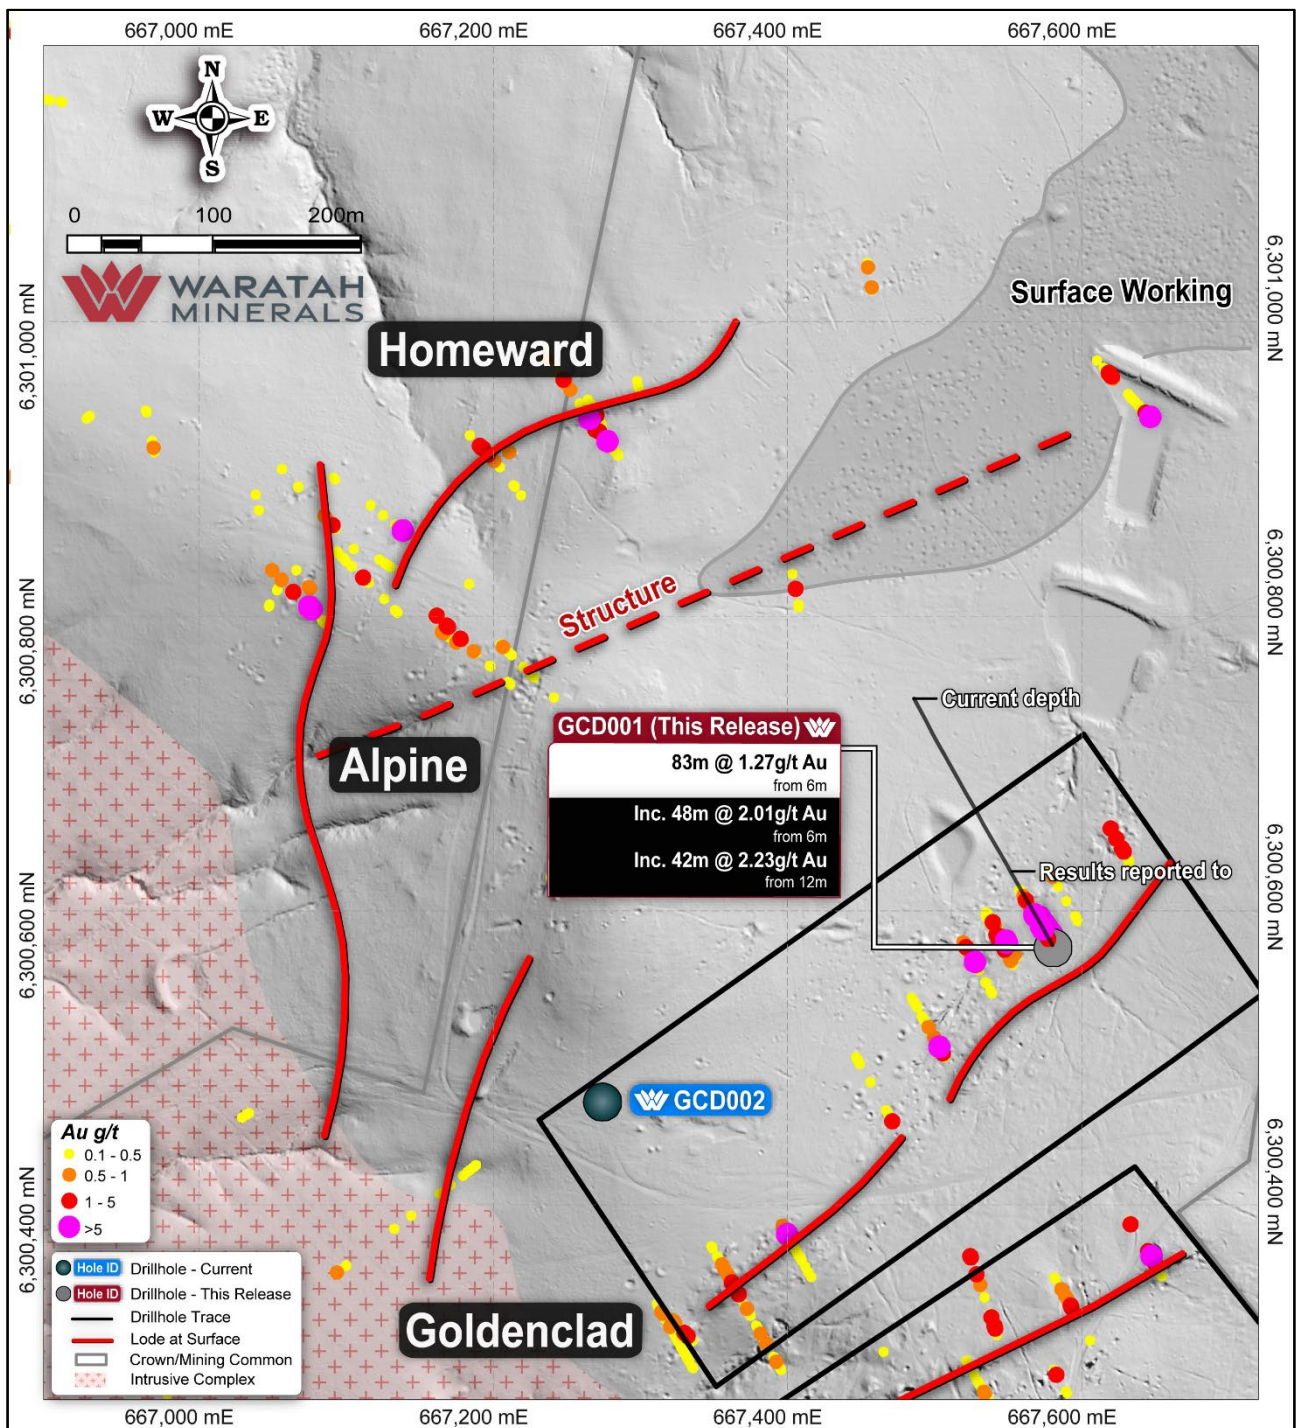

Figure 2: Goldenclad Mining Leases showing surface workings and drill results and drill hole trace.
- A second drill hole **GCD002** has been collared on the western margin of the Goldenclad trend targeting the undrilled Wollard's Reef and drilling back south across the Ironclad lease (Figure 2).